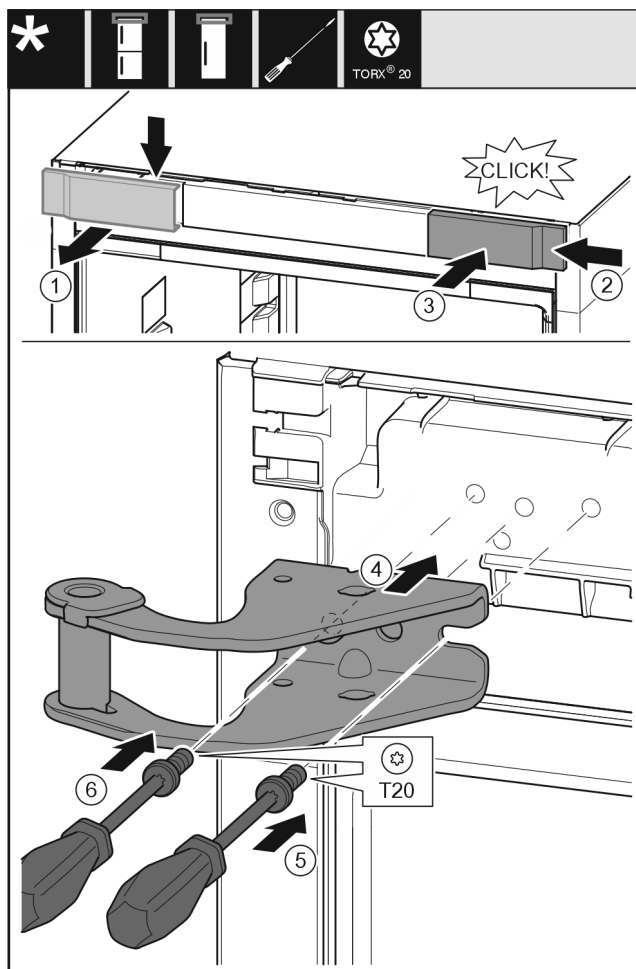

Fig. 14
- ▶ Remove the cover Fig. 14 (1) from above towards the front.
- ▶ Turn the cover Fig. 14 (2) by 180° and attach to the other side from the right.
- ▶ Engage the cover Fig. 14 (3).
- ▶ Place the top swap bearing block Fig. 14 (4).
- ▶ Use screwdriver Fig. 14 (5) to place the screw and tighten it.
- ▶ Use screwdriver Fig. 14 (6) to place the screw and tighten it.